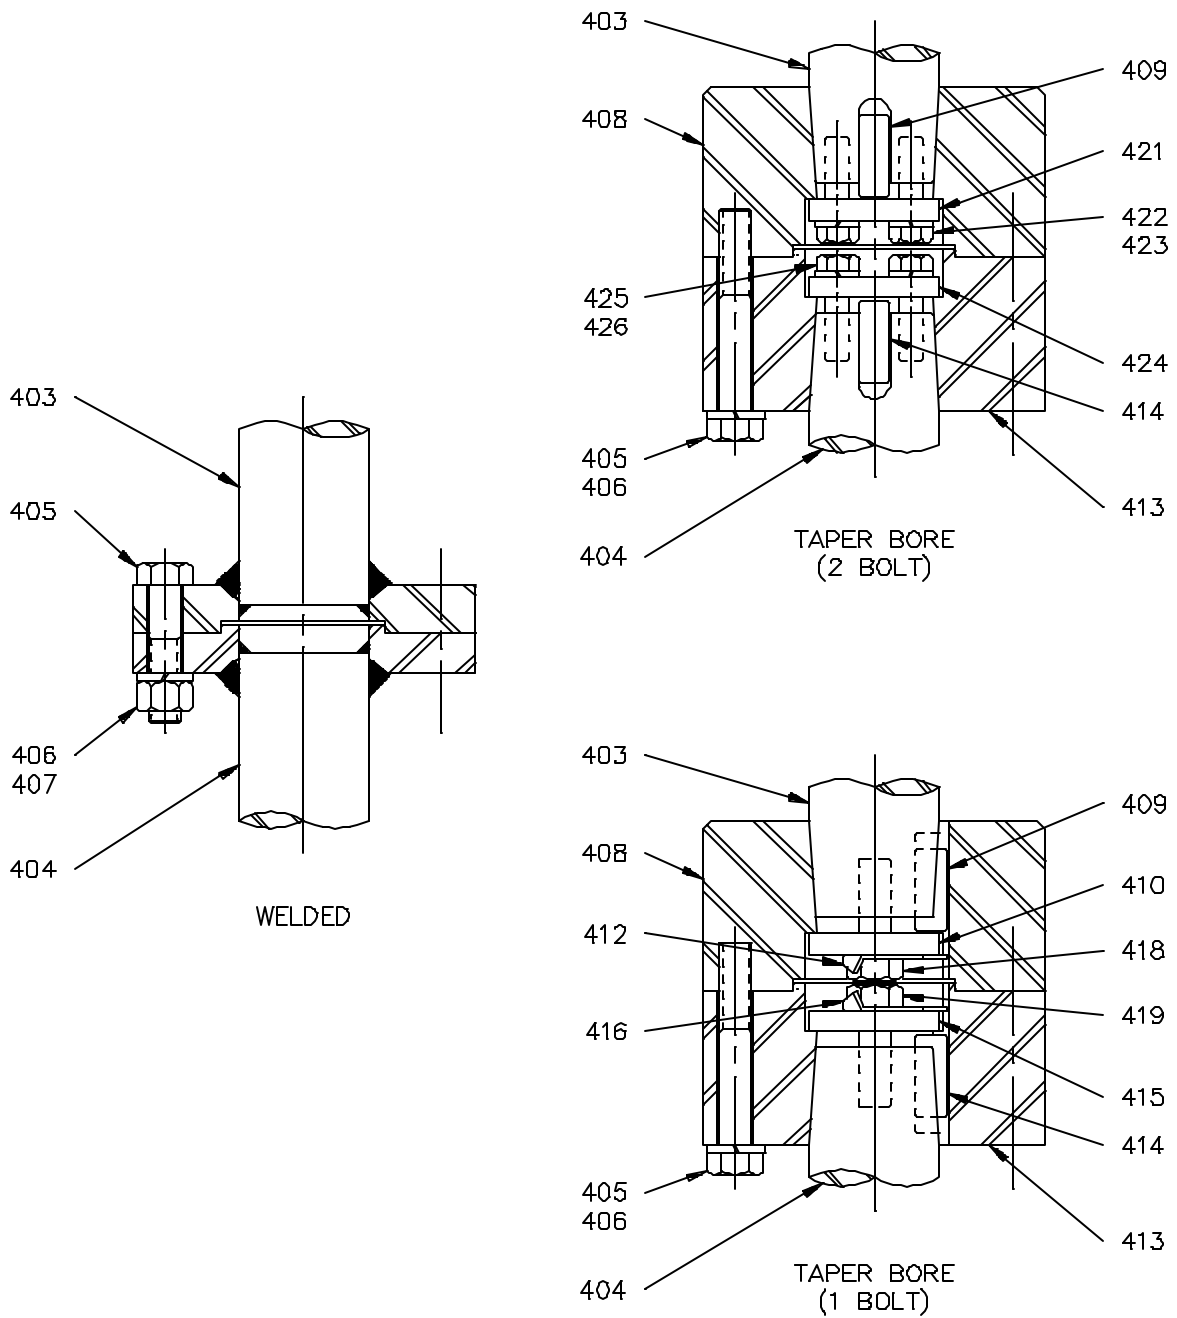

Figure 15: In-Tank Couplings
2. If coupling halves are installed on the shaft, refer to *Figure 15, page 31*, to see how fasteners are installed.
Assembly of Rigid, Removable, Taper Bore Coupling Half [408, 413] (Figure 15, page 31)